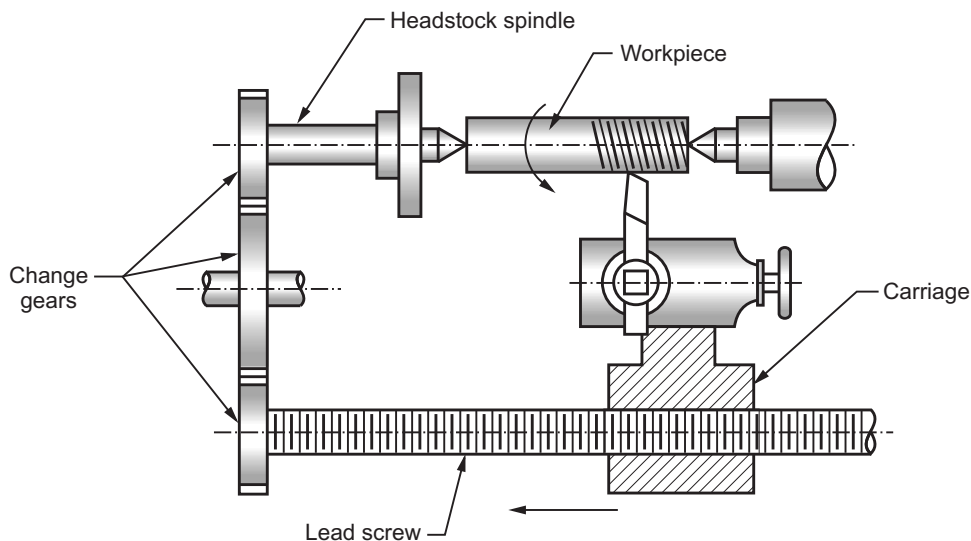

Fig. 5.15 : Lathe setting for thread cutting
- The motion is transmitted from the lathe spindle to the change gears and finally to the lead screw. Refer Fig. 5.15.